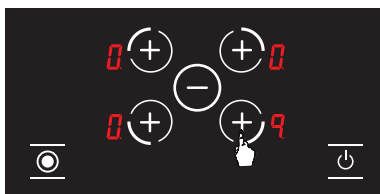

Figure 12
2. Adjust the power of the corresponding hotplate to **9**. (See Fig. 12.)